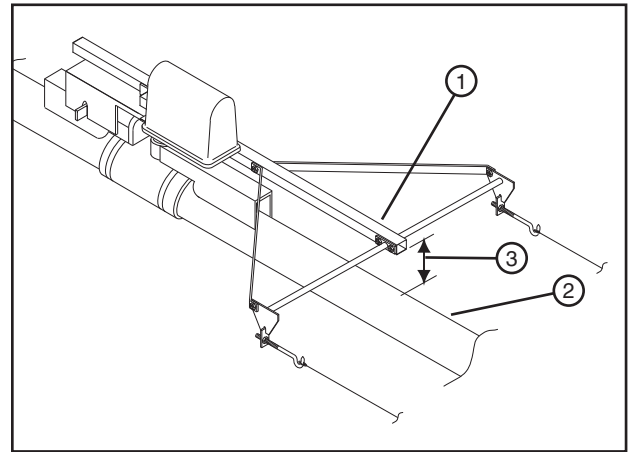

Figure 101-2 1. Alignment Tube
5. Measure the distance from the end of the alignment tube down to the pipe. This is the pre-weight measurement. See figure 101-2.